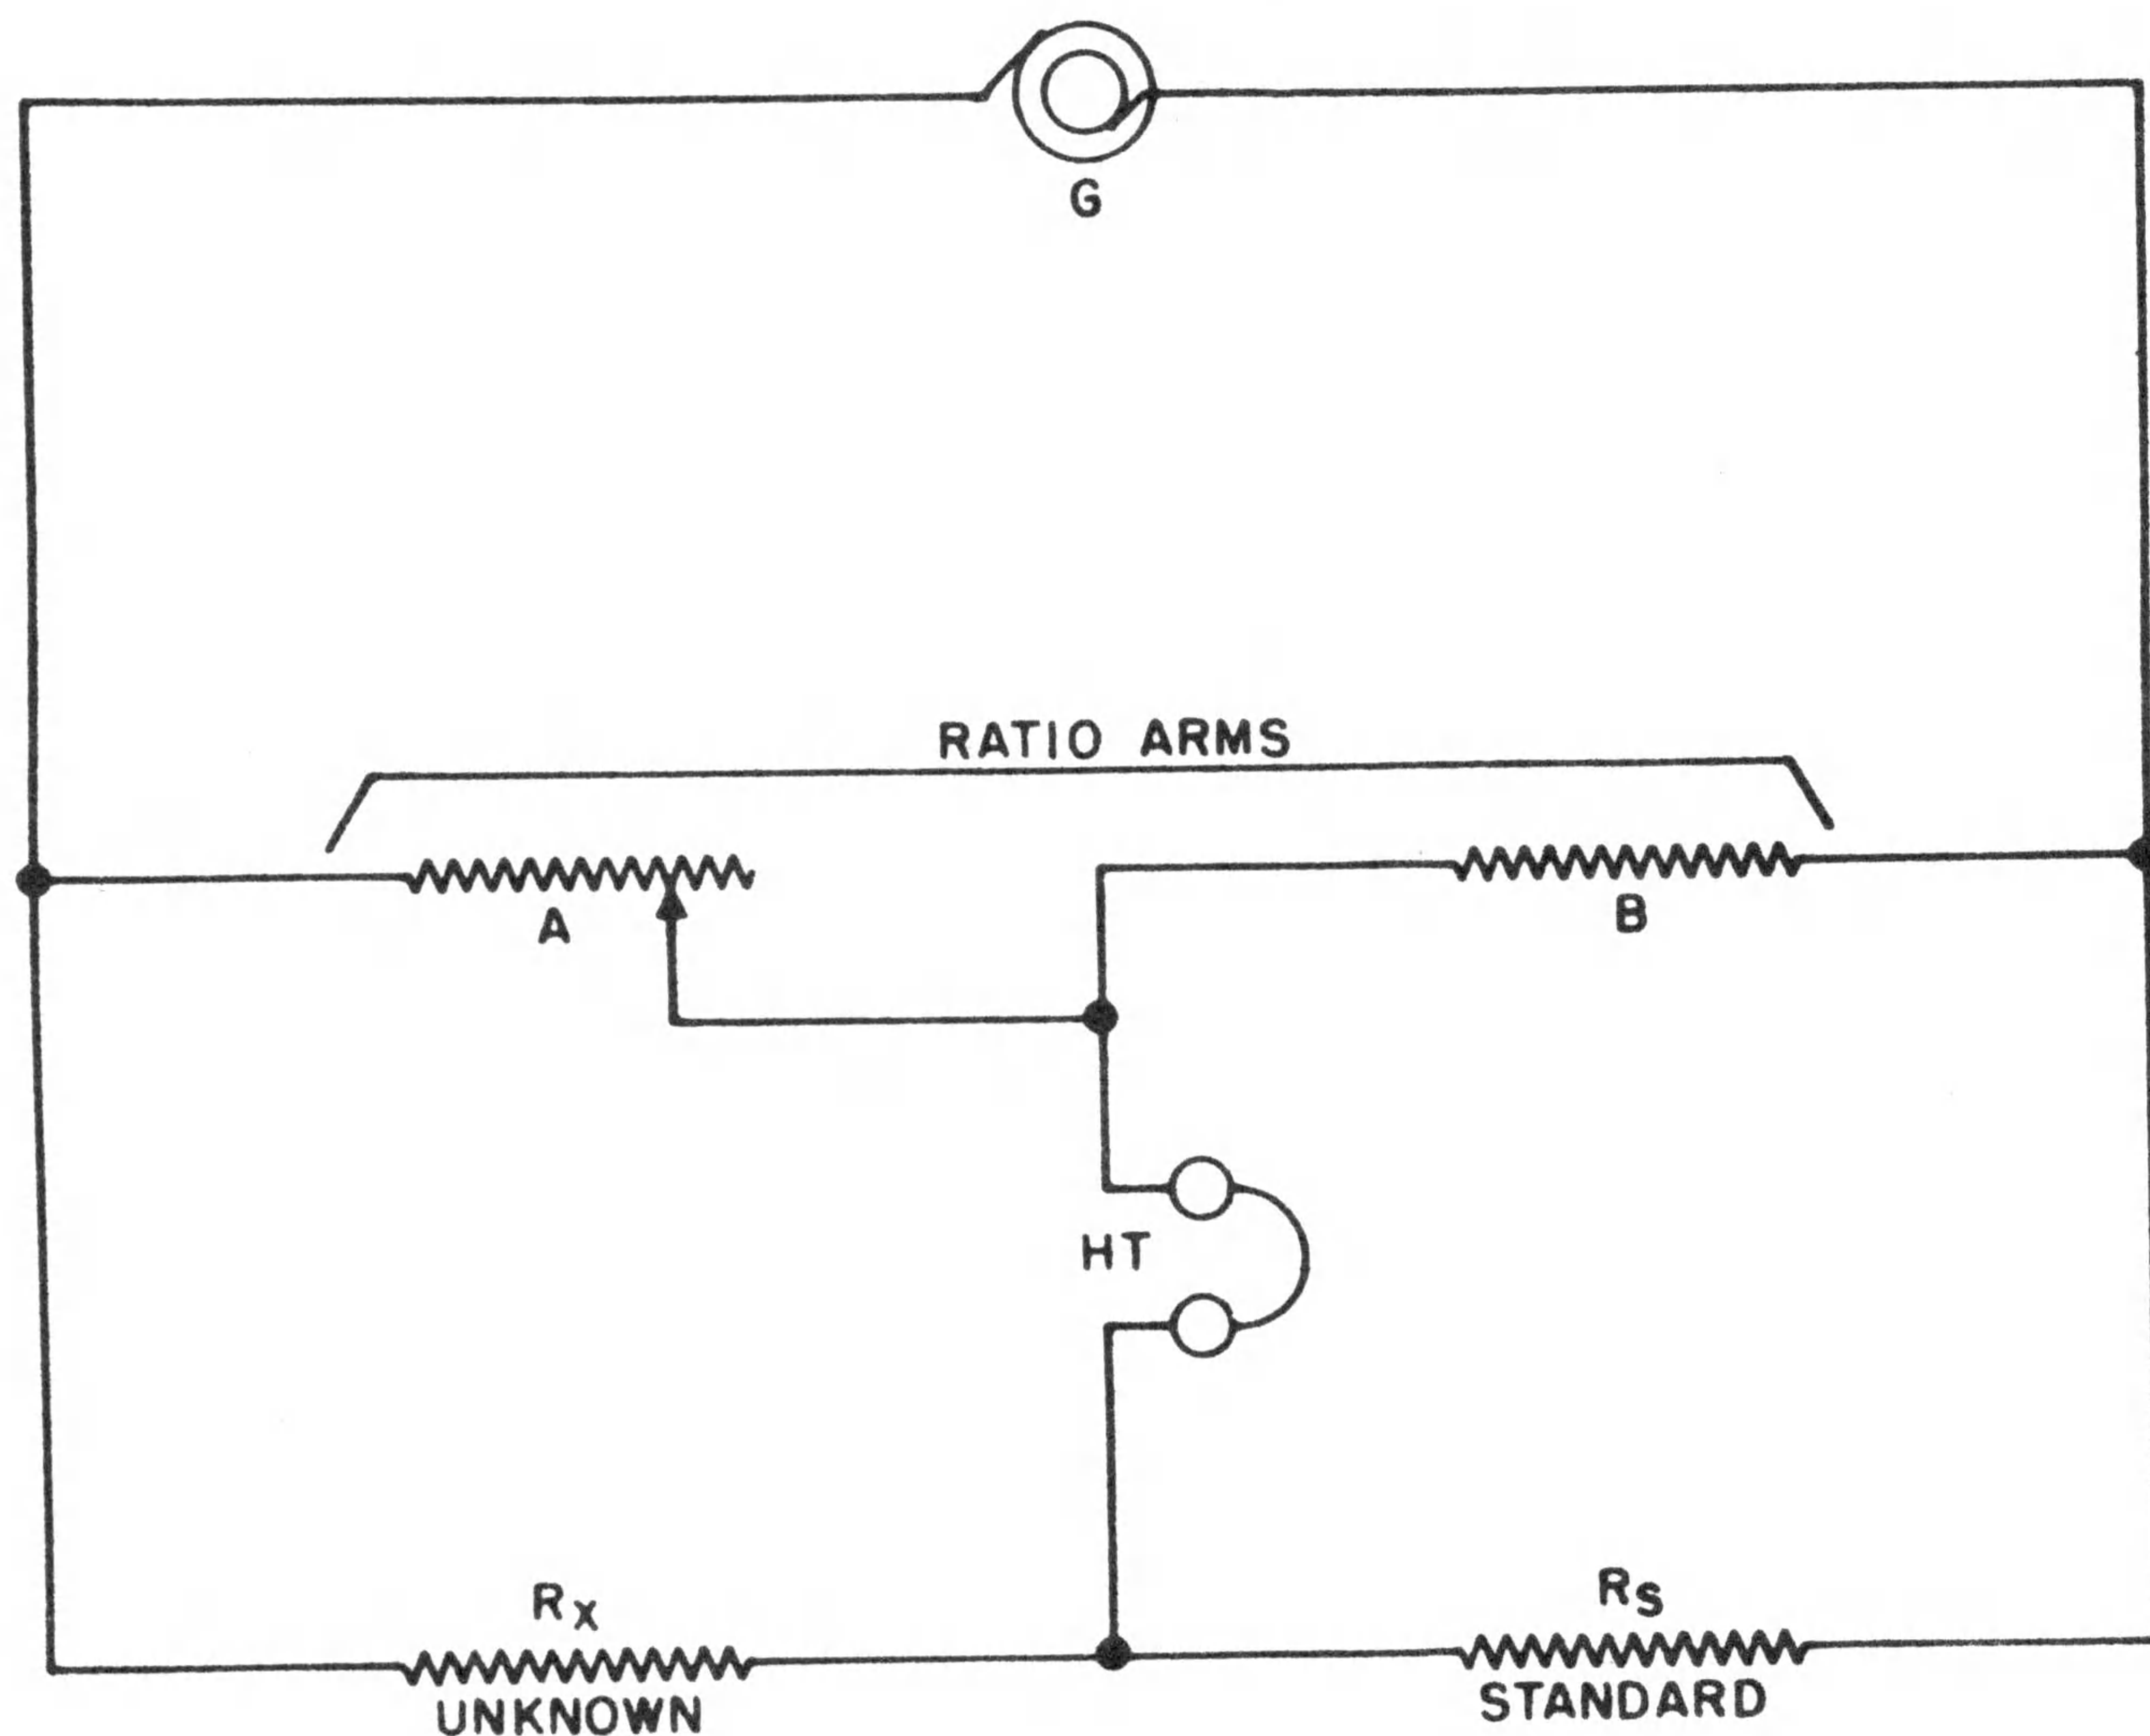
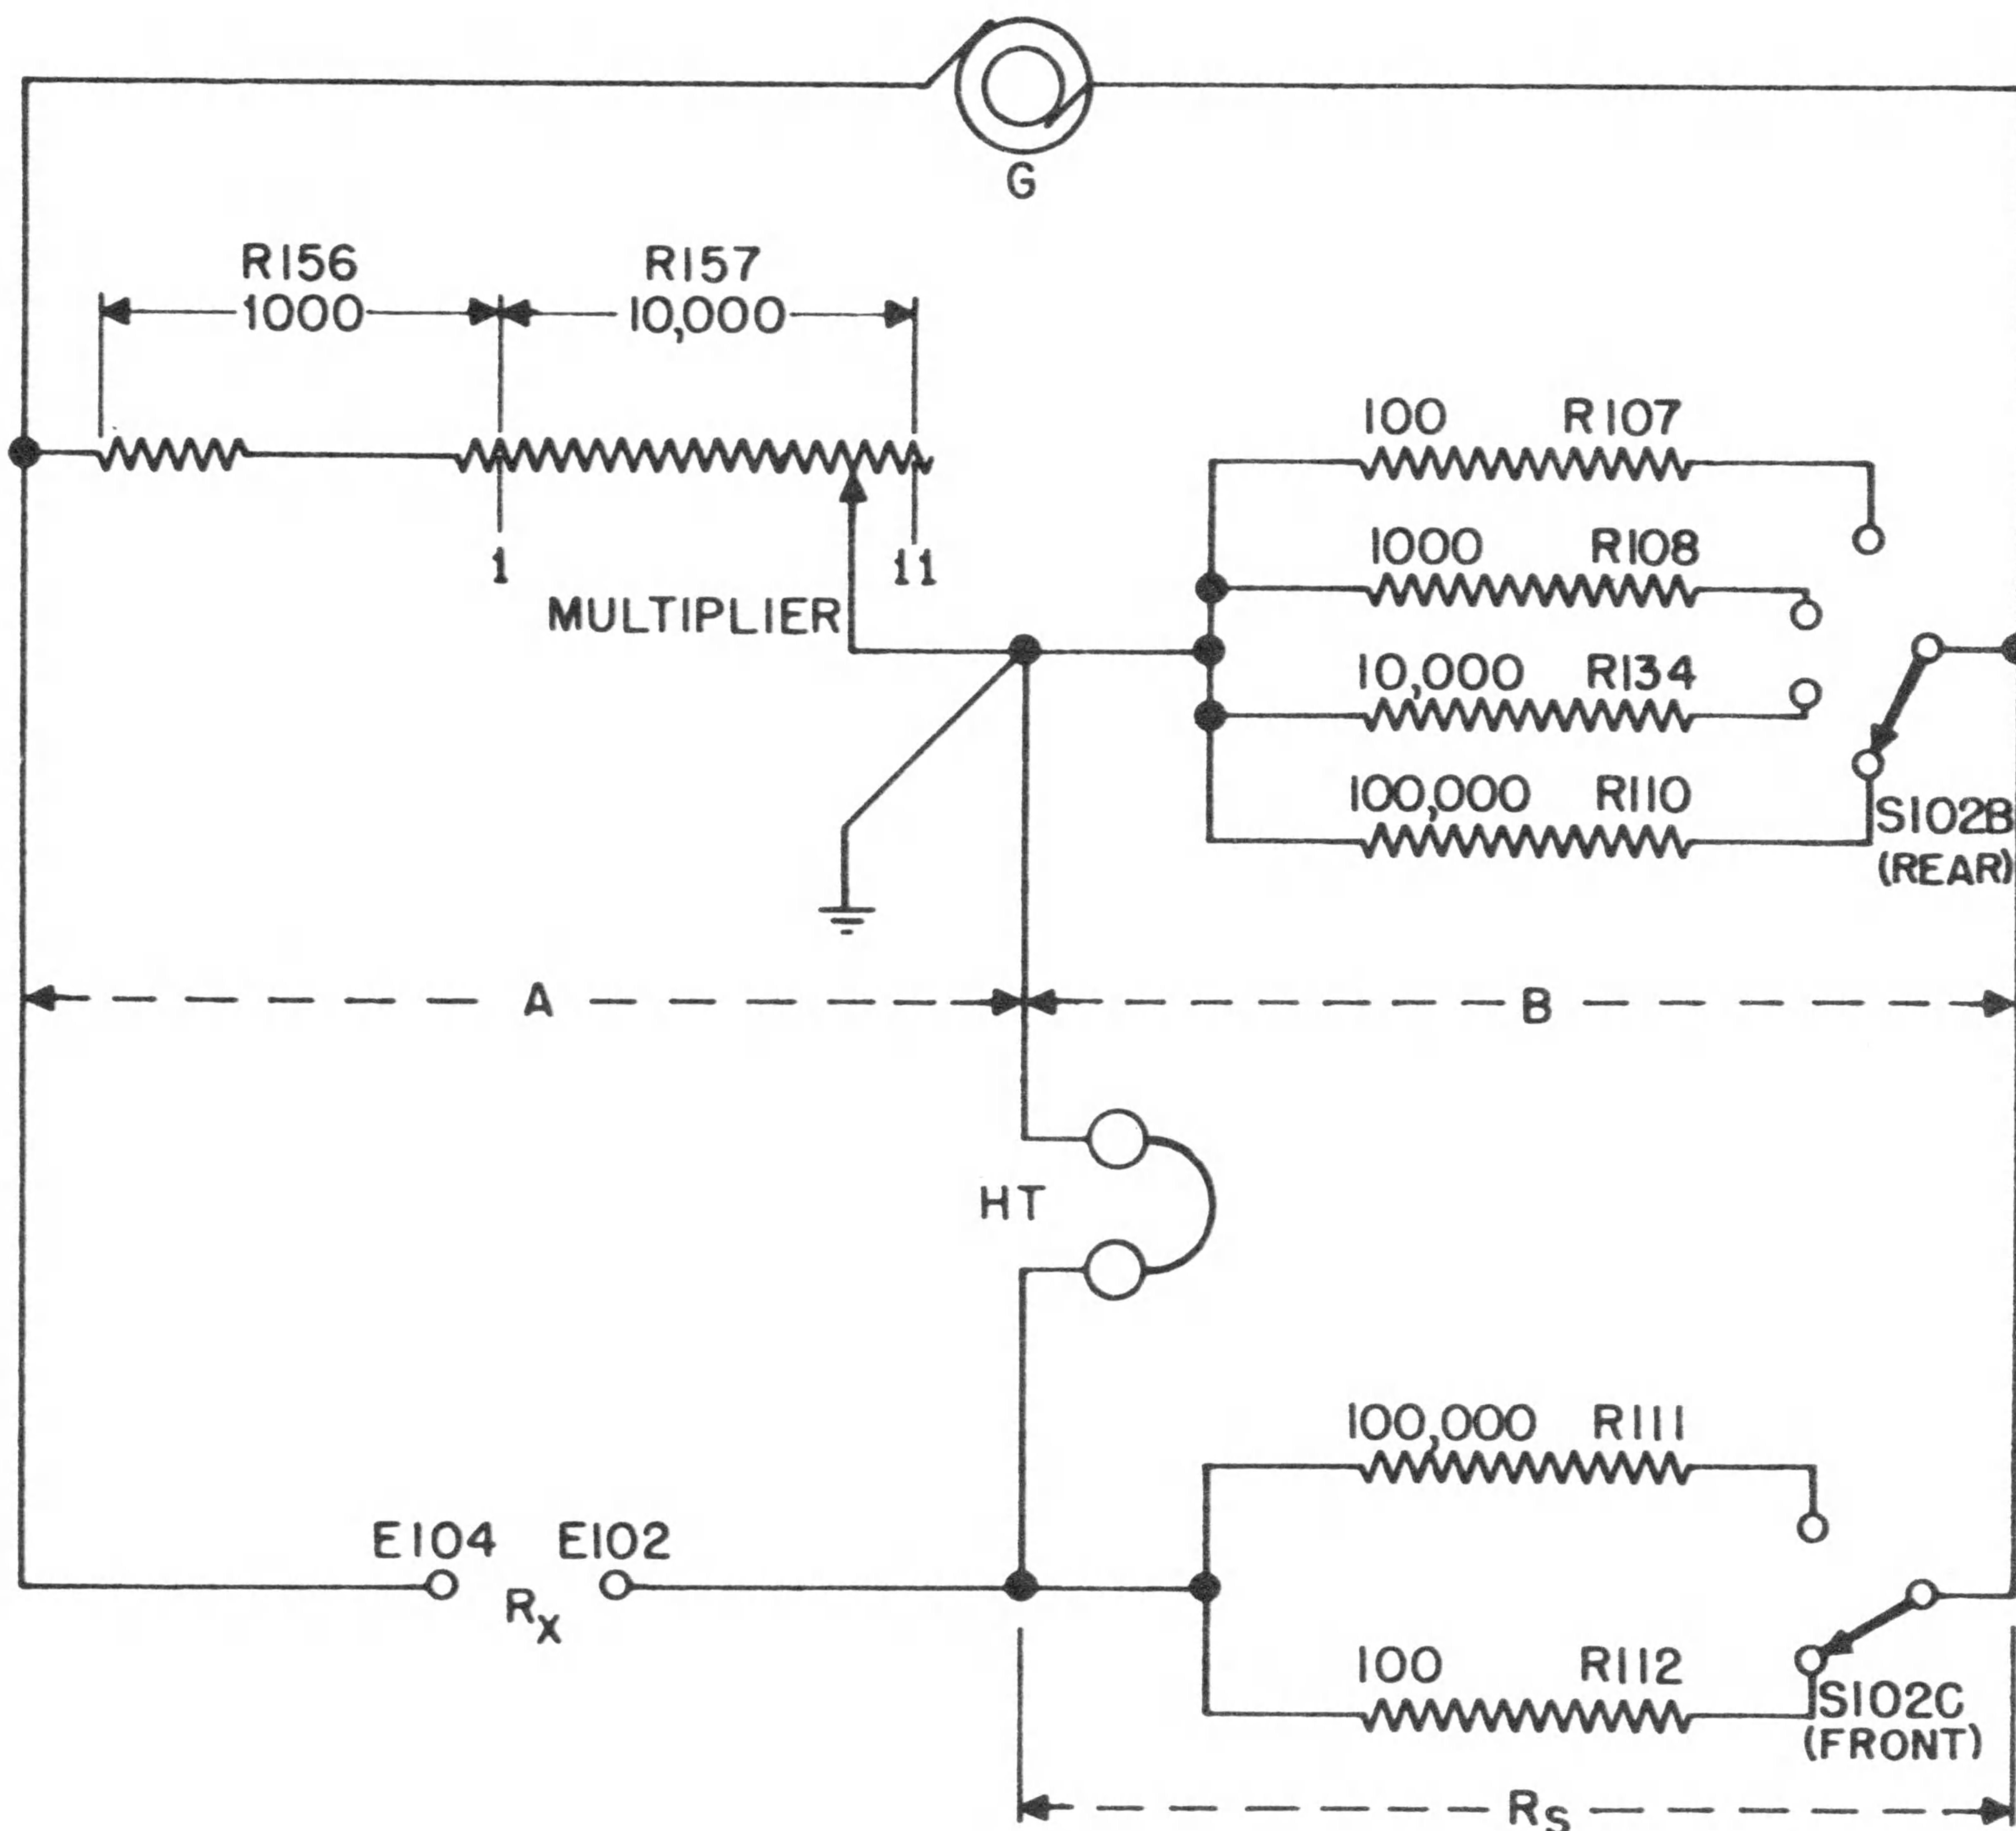

Figure 2-1. Elementary Bridge Circuit.
Figure 2-4. Resistance Bridge, Essential Circuits.
a. Figure 2-1 shows a bridge circuit in its most elementary form. An alternating current generator, G, passes current through two resistors, A and B, called the ratio arms and through resistors, R_x and R_s , called the unknown and standard, respectively. From consideration of the voltage drops, no current will pass through the head-telephone indicator, HT, when
a. When the FUNCTION SWITCH S105 is turned to "R" (resistance) the bridge circuit is connected as shown in Figure 2-4. Comparison of this with Figure 2-1 shows that the "A" arm is actually a potentiometer R157 which carries the MULTIPLY RANGE SETTING BY calibration 1 to 11 on the panel. (see Figure 4-1). This is swamped off at its lower end, R156, so that the panel setting of 1.0 includes exactly 1000 ohms and higher settings correspondingly higher values; also, that the "B" arm is one of four decimally related values selected by a switch. There are two values of the standard, Rs. Both switches
anced. Reversal of the positions of the standard and unknown with respect to the arms (compare with Figure 2-1) causes the A arm to retain its linear calibration. If the same relationship were used as for the resistance measurement, the A arm would have to have a new calibration which would be non-uniform corresponding to a reciprocal relationship.
a. If operation of the basic bridge circuit, Figure 2-1, is interpreted as a balancing of the ratio arms against the respective voltage drops across R_x and R_s , then it is apparent that the same ratio arms can be balanced against the voltage drops
b. With the FUNCTION switch set at N_1/N_2 , the connections are the same as shown in Figure 2-4 for resistance except for omission of the resistance standards. Since there are only four basic ratios (four values of the B arm) there are only four marked values of turn-ratio on the RANGE SWITCH, against which the MULTIPLY BY dial applies.